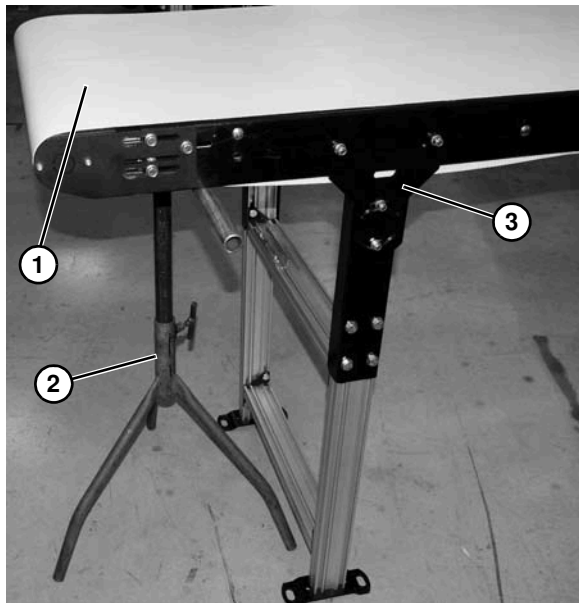

Figure 86
3. Install belt (**Figure 86, item 1**) on conveyor. Lift conveyor slightly to avoid pinching belt on temporary support stands (**Figure 86, item 2**).
4. Re-install conveyor mounting brackets (**Figure 86, item 3**) and secure with screws.